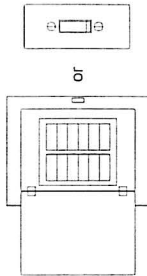

Fig 1
Step 1. Keep power off. See Fig 1.